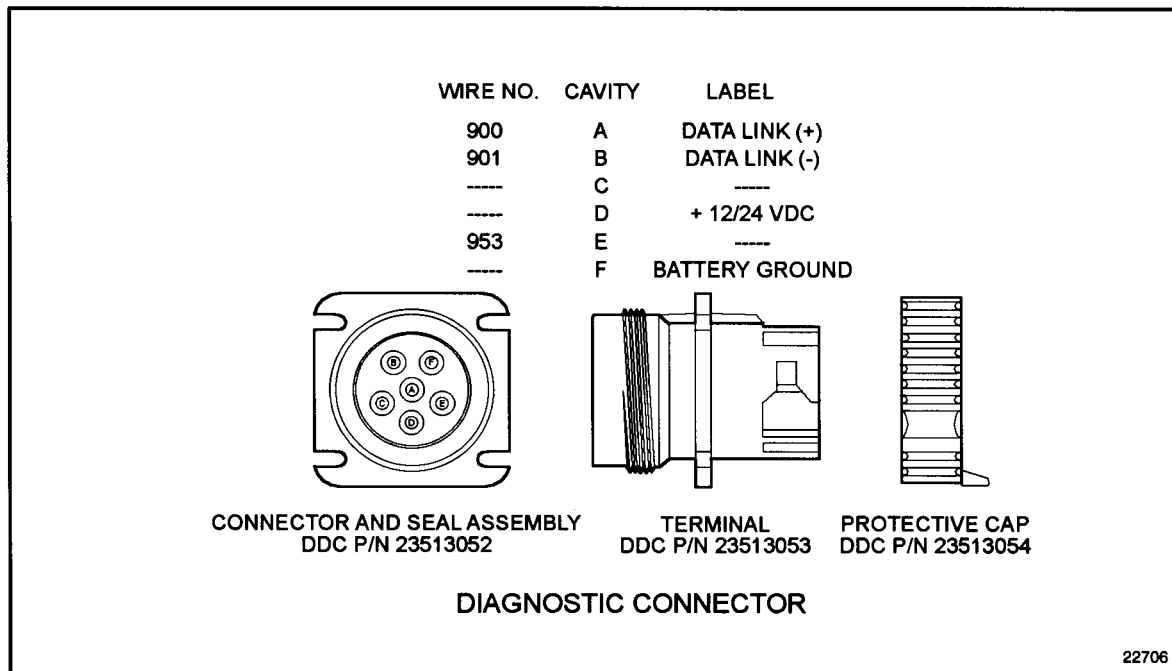

Figure 9-1 Diagnostic Connector
1. Turn ignition on. Plug DDR into DDL connector. See Figure 9-1.